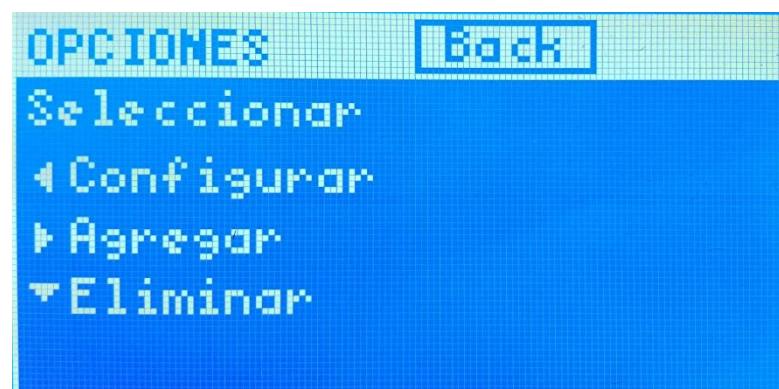

Figure 7- Options to apply inside the tablet
3. Select the "Configure" option with the ← button (Figure 7)